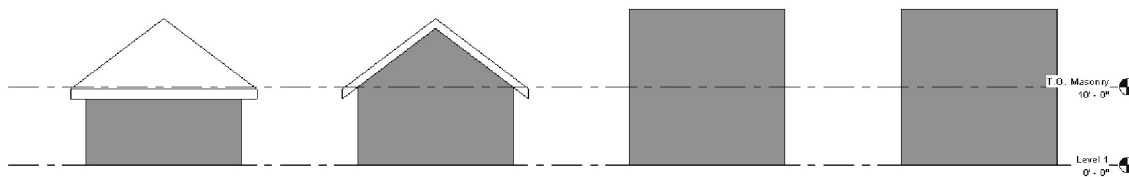

FIGURE 7-1.6 South elevation – gable roof
24. Switch to the **South** elevation view (Figure 7-1.6).